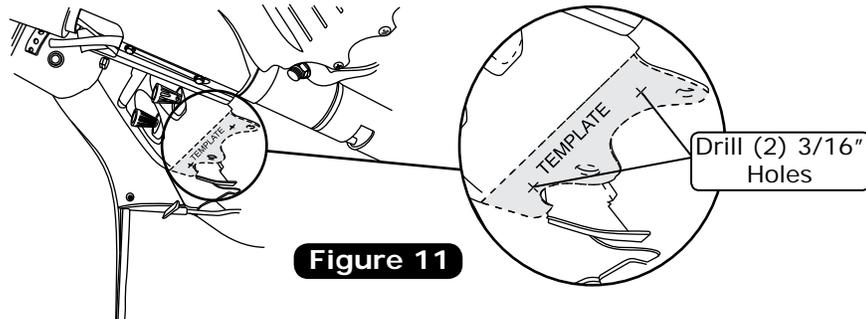

Figure 11
1. Cut out the template provided on Page 25. Place the template under the dash on the driver side by aligning the left side of the template against the edge of the dash as shown in Figure 11, below. Make sure the OEM holes line up with the holes on the template as shown in Figure 11, below.
2. Once the template is aligned correctly and taped into place, mark the mounting holes on the dash. Once the holes are marked in the correct location, drill (2) 3/16" holes into the dash for the driver side louver bezel (See Figure 11, below).